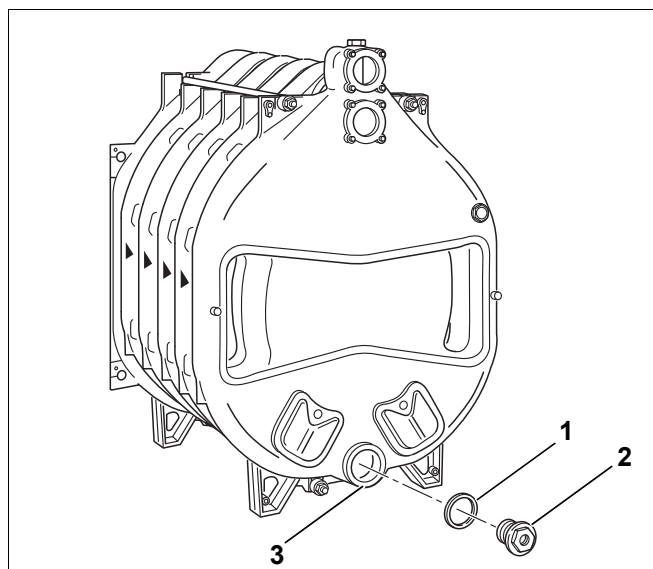

Fig. 21 Flange installation
- Close the lower boiler hub at the front and rear (→ Fig. 21, [3]). To do this, set the corresponding gasket (→ Fig. 21, [1]) onto the respective boiler hub and seal the corresponding drain plug into the appropriate port.
Fit the plug with internal $\frac{3}{4}$ " thread for the drain cock (→ Fig. 21, [2]) to the rear of the boiler.